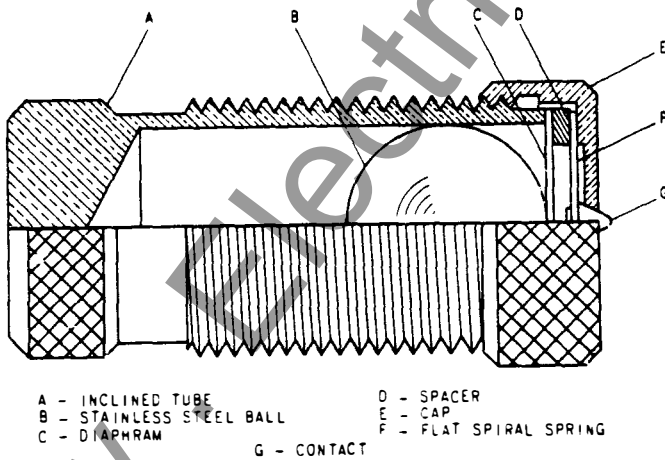

Fig. 8 Barrel Contact Assembly For The Directional And Instantaneous Overcurrent Units
The directional unit contacts (right rear), which control the instantaneous overcurrent unit, are shown in Fig. 8. They are specially constructed to suppress bouncing. The stationary contact (G) is mounted on a flat spiral spring (F) backed up by a thin diaphragm (C). These are both mounted in a slightly inclined tube (A). A stainless steel ball (B) is placed in the tube before the diaphragm is assembled. When the moving contact hits the stationary contact, the energy of the former is imparted to the latter and thence to the ball, which is free to roll up the inclined tube. Thus, the moving contact comes to rest with substantially no rebound or vibration. To change the stationary contact mounting spring, remove the contact barrel and sleeve as a complete unit after loosening the screw at the front of the contact block. Unscrew the cap (E). The contact and its flat spiral mounting spring may then be removed.